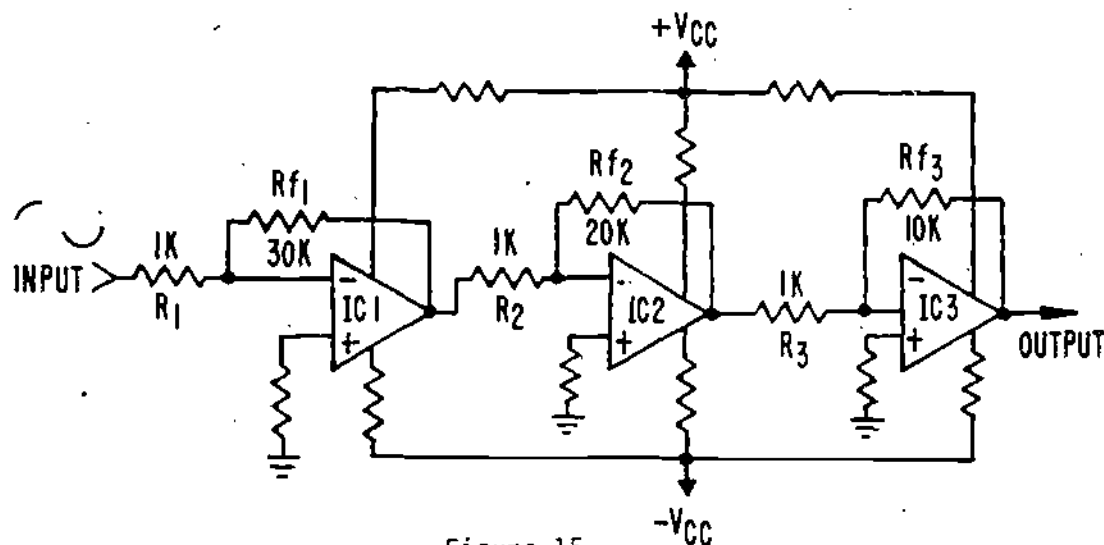

Figure 15
15. We have discussed the procedures for checking input signals to an IC. Now let's look at some general IC troubleshooting procedures. Consider the IC operational amplifier chain shown in Figure 15.
Generally, troubleshooting intergrated circuits follows a definite sequence of events. The first step to take in troubleshooting the equipment, after making obvious fuse and operational checks, is to signal trace with the oscilloscope. In Figure 15, the oscilloscope would be used to check for proper signals at the input and output points. The amplitude of the signal at specific points may be specified in references. If not available there, the correct amplitude may be estimated using the formula:
By applying this formula to each stage in the circuit shown in Figure 15, the gain of each stage becomes as follows: